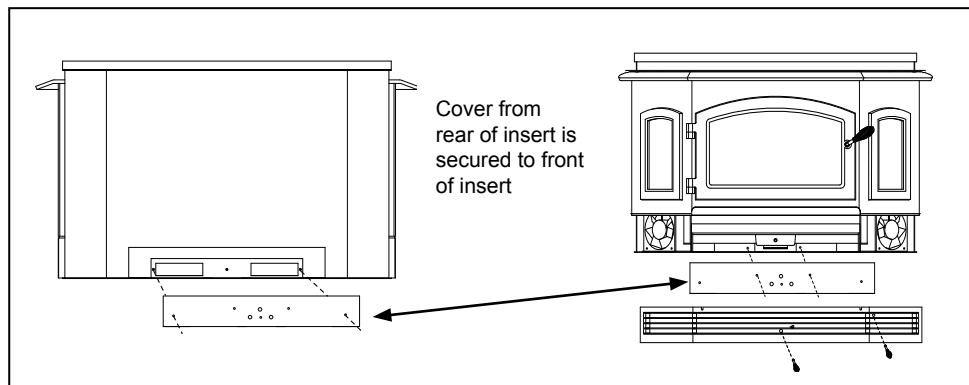
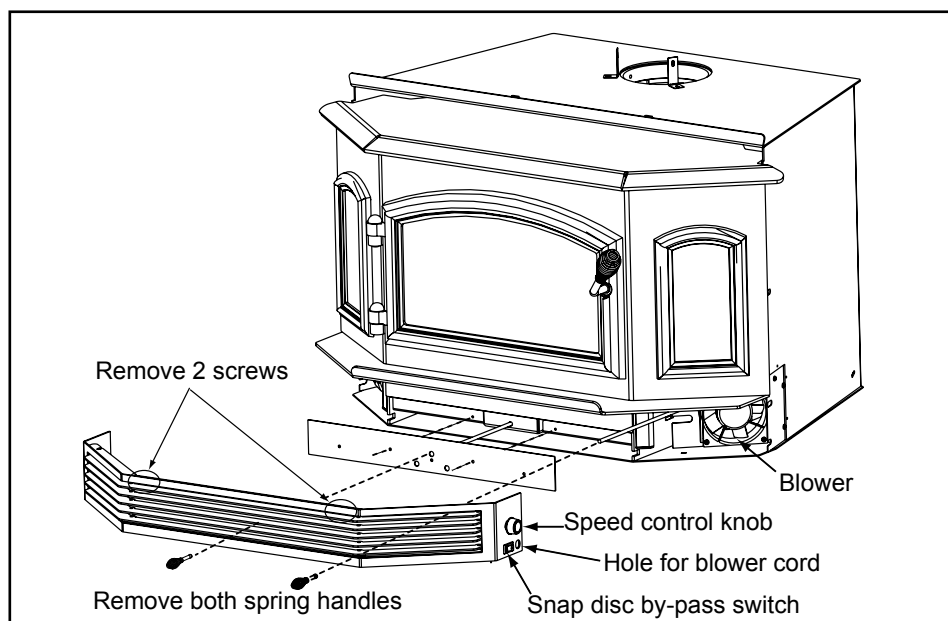

Figure 11.1
Figure 11.2
1. Remove the 2 air control spring handles. **Figure 11.1.** Remove the grille by removing 2 screws in the center of the grille. **Figure 11.2**
3. Unplug the snap disc by-pass switch and speed control from the wiring harness. **Figure 11.2**
4. Remove cover from rear of insert by removing 2 screws. **Figure 11.1**
5. Attach the cover to the front of the insert to block room air from entering through the front grille. **Figure 11.2.**